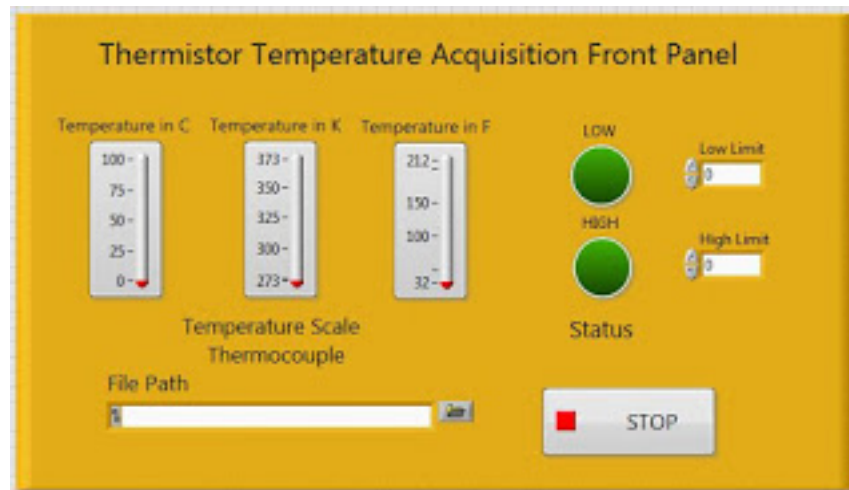

Figure 1. Front panel.
- **Remember: Your front panel should look like the figure shown above (Figure 1)**